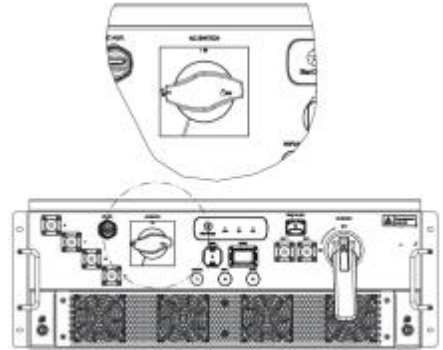

Figure 6-5 AC circuit breaker
- Before the electrical connection of the converter is completed, it is forbidden to close the AC circuit breaker switch, and the AC circuit breaker is in the OFF state, as shown in Figure 6-5.